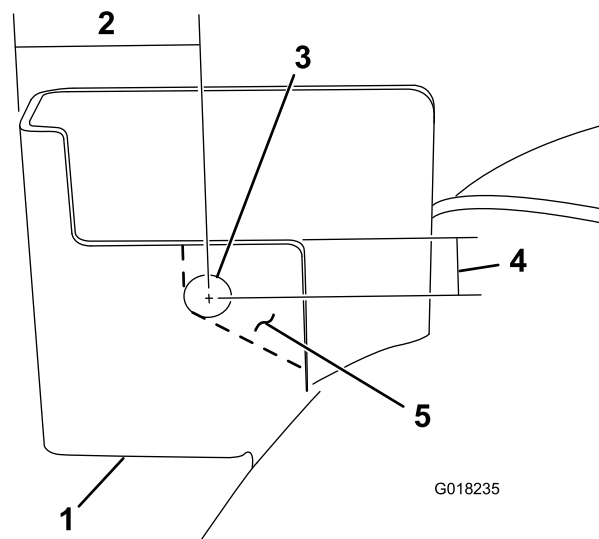

Figure 2
- A. To aid in removing material from the rear left-hand deck bracket, drill a 1/2-inch (13 mm) hole in the bracket at the location shown in Figure 2.
- B. Remove the portion of the rear left-hand deck bracket as shown in Figure 2.